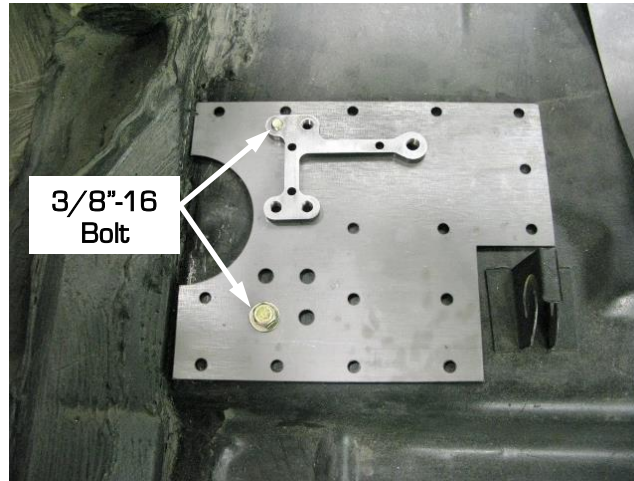

Figure 7 - Position Leaf Spring Floor Doubler
16. Position the DSE leaf spring pocket floor doubler on the top side of the floor inside the vehicle, above the leaf spring pocket assembly. Install one of the provided 3/8”-16 x 1” L hex head bolt and washer through the pocket assembly where you previously drilled a hole and thread into the floor doubler from underneath the vehicle. Install another 3/8”-16 x 1” L hex head bolt and washer through the floor doubler where you previously drilled a hole and thread into the pocket assembly from inside the vehicle. (Figure 7 on the next page). **NOTE:** The outside edge of the doubler plate may need to be trimmed to sit square to the pinch weld of the rocker panel. You may also need to open up the half circle in the doubler plate due to vehicle variation. If you have the DSE QUADRALink installed, you may need to trim the doubler plate around the area of the upper link pocket.